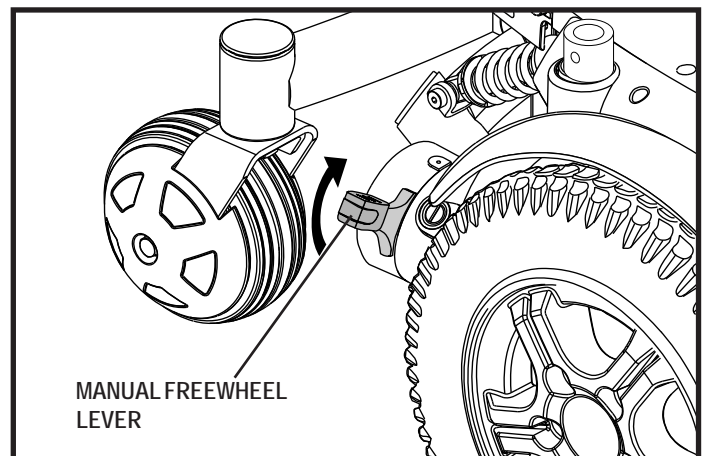

Figure 5. Freewheel Mode (Drive Disengaged)
2. Pull up both manual freewheel levers for drive mode (drive motor engaged). **See figure 5.**